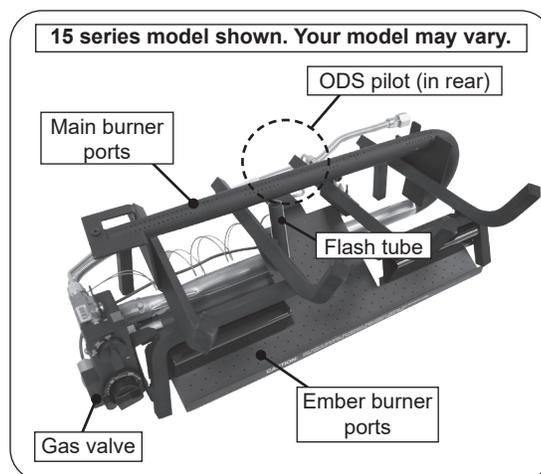

Fig. 29-1 Burner assembly
**A.** It is imperative that all control components and compartments, burners, and circulating air passageways of the appliance be kept clean and free of all obstructions. Excessive lint can build up on this unit from carpeting, bedding material, pet hairs, or other particles in the air. The ODS pilot is especially sensitive to a dirty environment and will not function properly if dirty. Refer to Fig. 29-1 and the CLEANING AND SERVICING THE ODS PILOT section to make certain all air openings are clean and free of obstructions, including:
- The flash tube and its corresponding carryover ports (see Fig. 29-1). Obstructions in or around the flash tube may result in the ember burner not lighting and/or an intermittent popping noise from the flash tube.
- All of the ports on both the bottom ember burner and the top main burner. (See Fig. 29-1.)